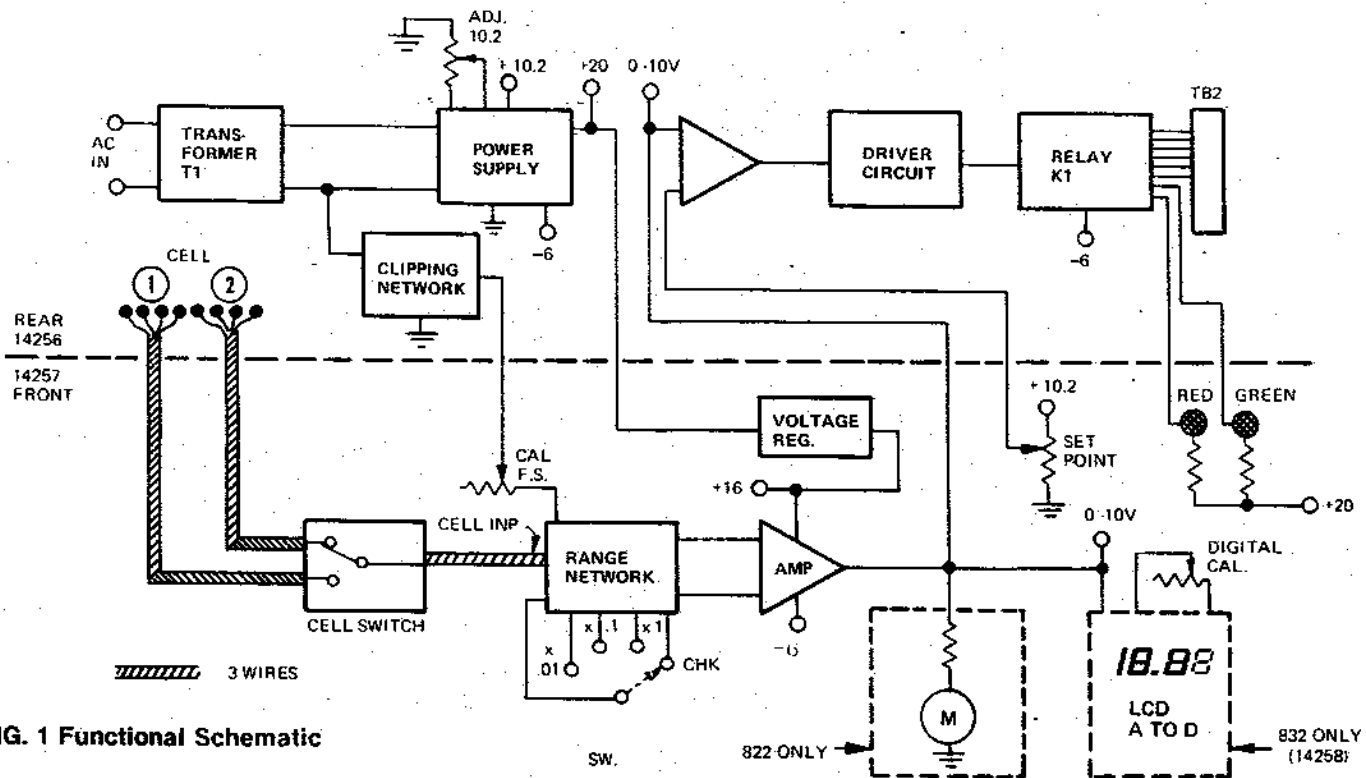

FIG. 1 Functional Schematic
1.3.2 Electrical Circuit (FIG. 1) A simplified functional schematic shows the essential elements of the 800 series meter which consists of: